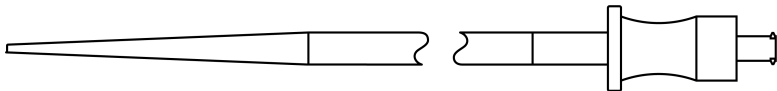

Figure 3: Dilator
and tracking to the intended deployment location. The delivery system includes a tapered tip to facilitate crossing of right heart structures. The valve capsule and tapered tip are hydrophilic coated. A visual balloon shaft marker is provided to assist with balloon recapture. A stylet is included within the guidewire lumen of the delivery system. The 28 F hydrophilic coated dilator (packaged with the delivery system) is used to predilate the vessel prior to insertion of the delivery system, if necessary (Figure 3).
- **Dilator (Figure 3)**